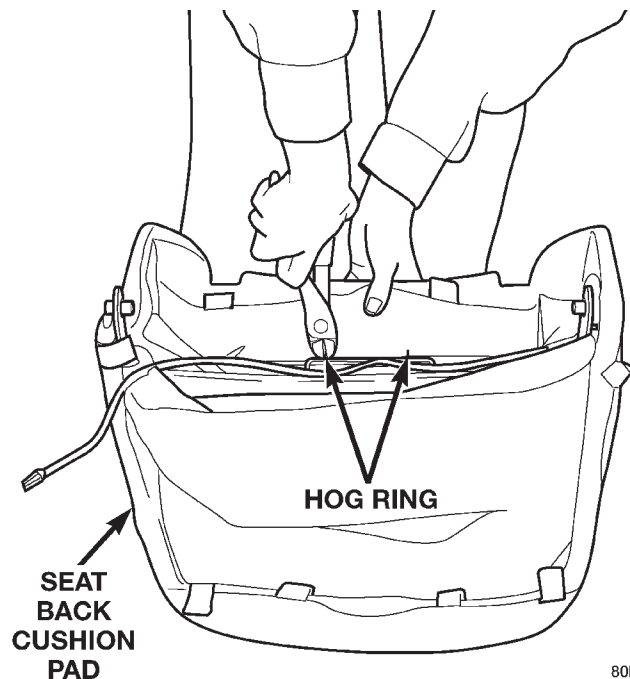
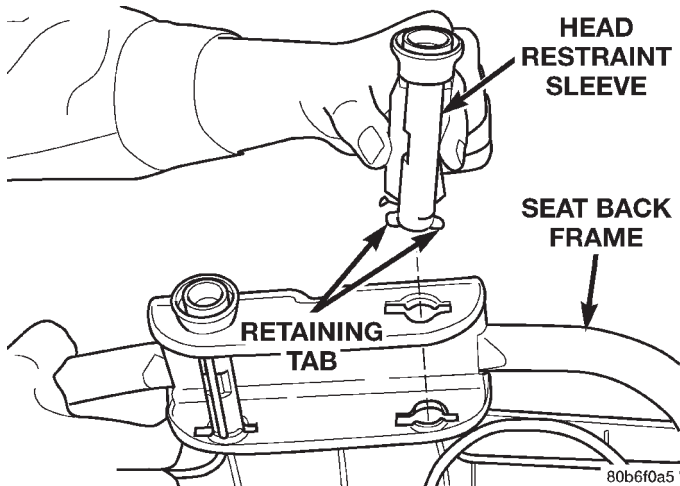

Fig. 5 Cushion Pad
Fig. 6 Head Restraint Sleeve
- (1) Remove head restraint.
- (2) Remove seat back.
- (3) Remove seat back cover.
- (4) Remove hog rings attaching cushion pad to seat back frame (Fig. 5).
- (5) Remove cushion pad from seat back frame.
- (6) Rotate head restraint sleeve 1/4 turn counter-clockwise to release retaining tab.
- (7) Pull sleeve from seat back frame (Fig. 6).